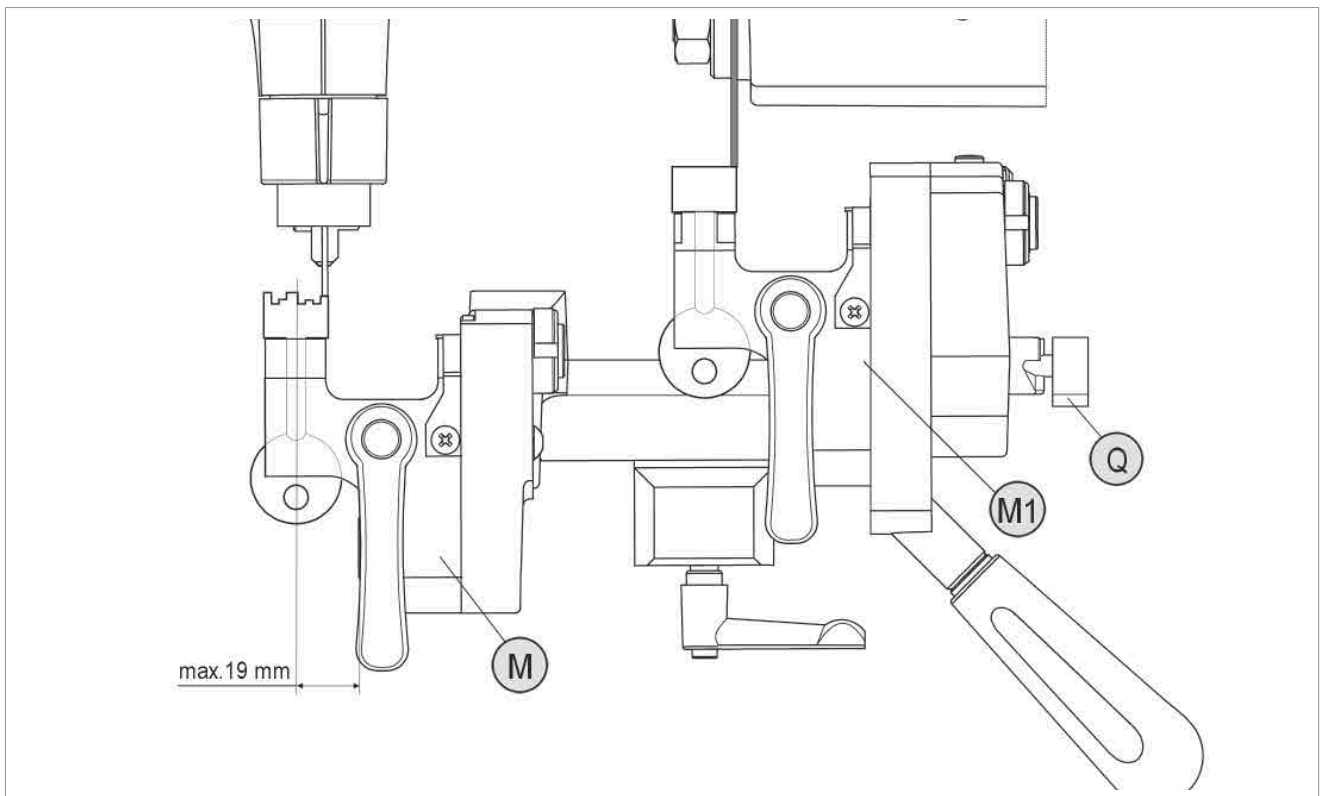

Fig.52
- 1) Use the lever (Q) to lock the right-hand clamp in the horizontal position.
- 2) Fit the original key into the left-hand clamp (M) with the bit up against the lower jaw of the clamp (Fig.52).